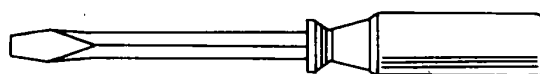

Figure 4-13. Common Screwdriver
(1) *Common screwdriver.* The common, or standard, screwdriver, shown in figure 4-13, is suitable for driving or removing slotted screws. The blade must have sharp corners and fit the screw slot closely. The size is designated by the length of the shank and blade.